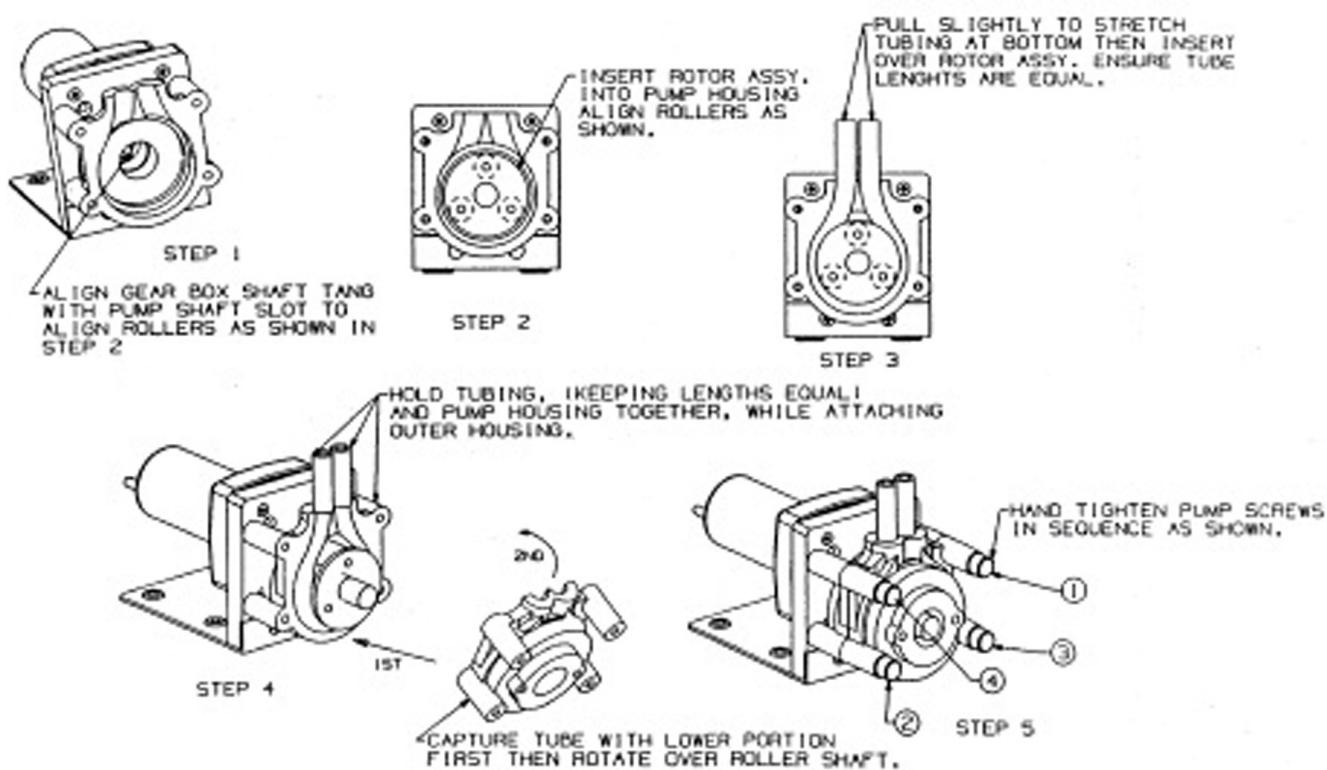

Figure 3.
5. Remove the old hose from the pump body. If the rollers come out with the hose, place it back into the housing being sure to align the roller assembly shaft keyway to the motor shaft key so that the two interlock (see Figure 3 for step by step pictorial instructions).